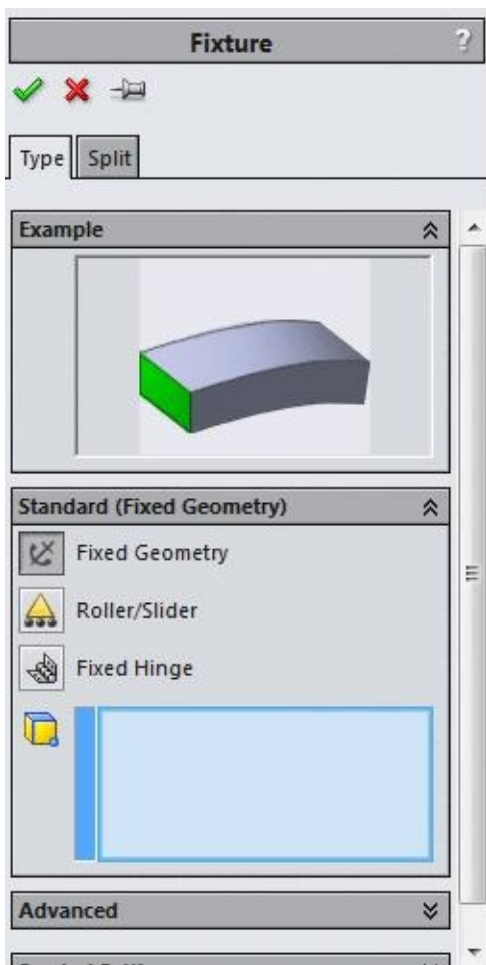

Figure-5. Fixture PropertyManager
- Click on the **Fixed Geometry** button from the tool list. The **Fixture PropertyManager** will be displayed; refer to Figure-5.